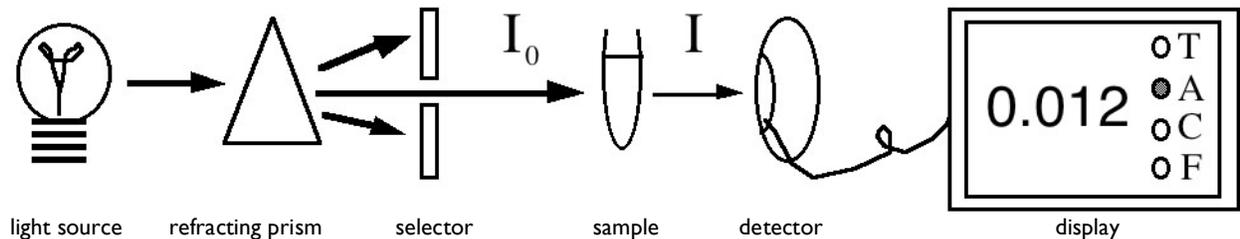

Figure 1. A schematic diagram of the components of a spectrophotometer. The arrows indicate the pathway of light.
A spectrophotometer consists of a white light source (light of all visible wavelengths), a prism or diffraction grating that separates the light into different wavelengths, a slit through which a narrow beam of the desired wavelength (I) passes (the incident light, I_0), a sample solution holder, a photosensitive detector that measures the energy of light transmitted through the solution (I), and a recording device that displays the amount of transmitted light energy digitally or on a dial. See Fig. 1 below.
Figure 1 is a simplified diagram of a spectrophotometer that can measure one sample at a time. In our experiments, we will be using a microplate reader that is capable of measuring the absorbance of 96 samples in just a few seconds. The basic design is exactly the same; a selected wavelength of light passes through the samples and a phototube measures the amount of light transmitted through the sample, which the plate reader converts to absorbance. However, the samples are located in microwells that are arranged in an 8 x 12 matrix in one plastic plate (see figure 2). You can put your samples in any or all of the microwells. The plate is moved over an array of eight fiber optic light sources and eight phototubes. Each row of eight is scanned and then the plate advances by one row and the process continues until all 12 rows are scanned. The absorbance data are then displayed on a screen in an 8 x 12 array. You also can program the plate reader to measure the absorbance of all 96 samples at time intervals of your choice (e.g. every 30 seconds). You should take advantage of these capabilities when you design your experiments for next week.